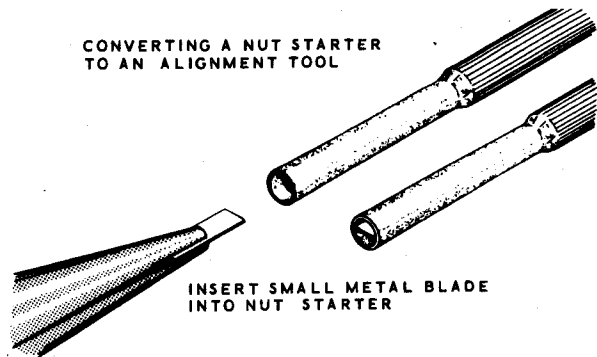

Figure 2
- ( ) A small rectangular steel blade is supplied with this kit. Refer to Figure 2. Then use long-nose pliers to insert this blade into the smaller hole in the plastic nut starter. When installed, the blade end should be flush with the end of the nut starter. This can now be used as an alignment tool.